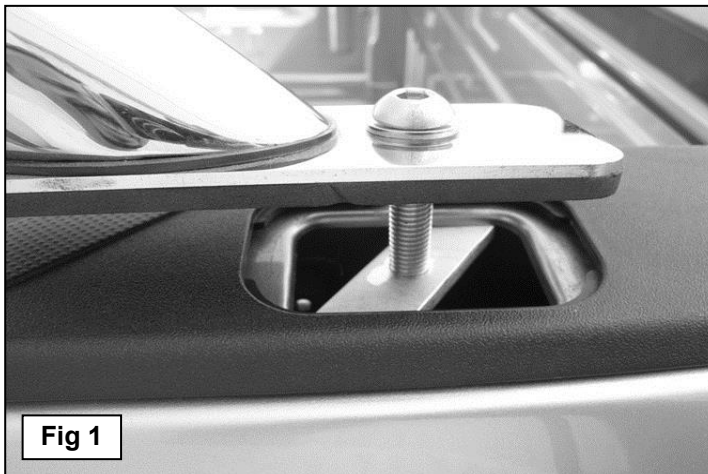

Fig 1
- On vehicles with removable covers:** Remove the small plastic cover over each stake pocket, **(Figure 1)**.